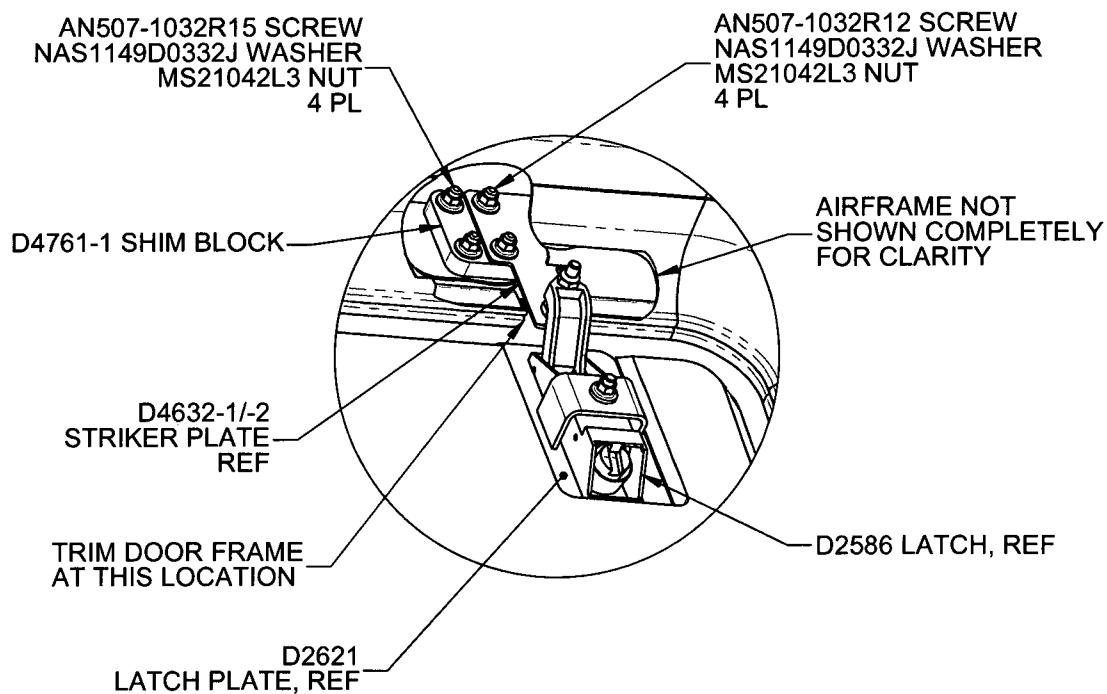

FIGURE 1 - D4632-1/2 STRIKER PLATE WITH D4761-1 SHIM BLOCK INSTALLATION
1. After removing the existing door hinges and the existing 3G5230A02651 shim, position the D4761-1 shim block against the airframe on the inside of the door in the same location as the removed 3G5230A02651 shim as shown in Figure 1 and transfer drill 4x Ø 0.201 holes from the airframe to the shim block.